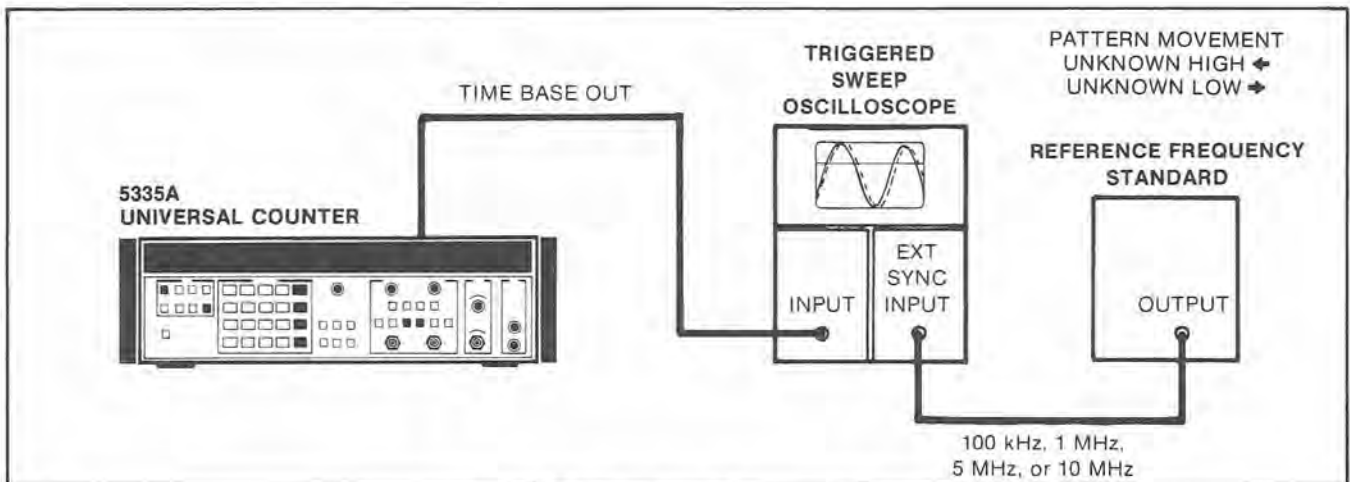

Figure 5-4. Oscillator Adjustment Setup
- a. As shown in *Figure 5-4*, connect a reference frequency standard to the external sync input of the oscilloscope.